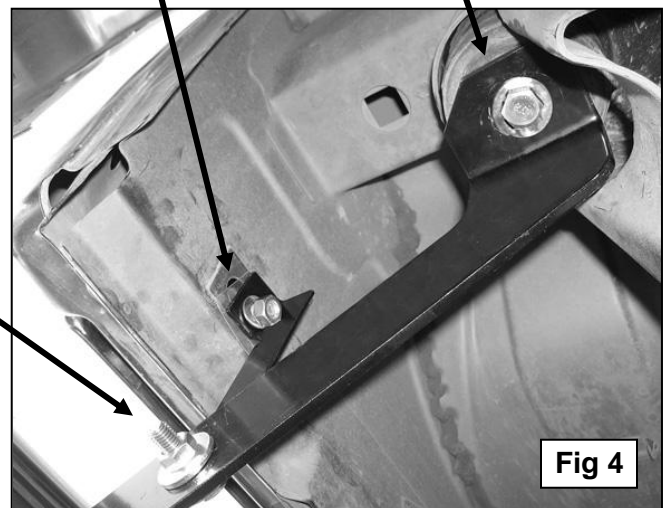

Fig 4
8. Next, move to the rear Mounting Bracket location. Remove the tape covering the hole in the inner rocker panel and install (1) Bolt Plate as described in **Step 5**. Locate the driver side rear Support Bracket (short) and attach it to the Bolt Plate with (1) 10mm Lock Washer, (1) 10mm Flat Washer and (1) 10mm Hex Nut, **(Figure 4)**. **NOTE:** Place Support Bracket against the front facing side of the Mounting Bracket with the bent tab facing towards the **rear** of the vehicle. Repeat **Step 7** to attach the lower end of the Support Bracket to the Mounting Bracket, **(Figure 4)**. Snug but do not tighten hardware at this time